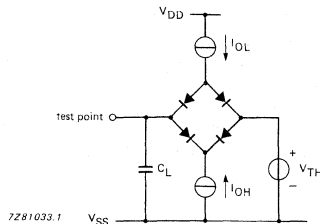

**Fig. 42 Open drain, bi-directional test loads.**
**DC CHARACTERISTICS**  $V_{DD} = 5,0V \pm 10\%$ ,  $V_{SS} = 0V$ ;  $T_{amb} = 0$  to  $70^{\circ}C$  (see Figures 42, 43)4,5